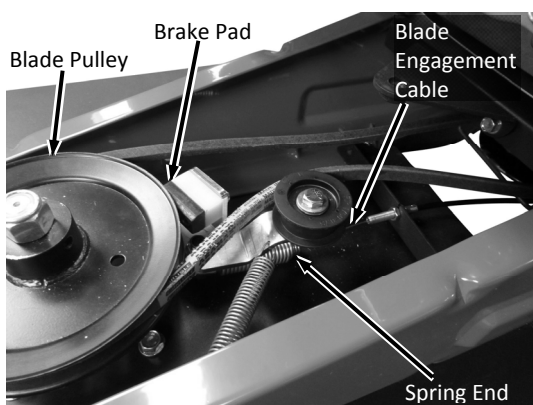

Figure 7
6. With the Blade Engage Lever released, ensure that the Brake Pad is resting against the Blade Pulley and that the Cable/Spring end of the Blade Engagement Cable is sagging slightly (Figure 7).